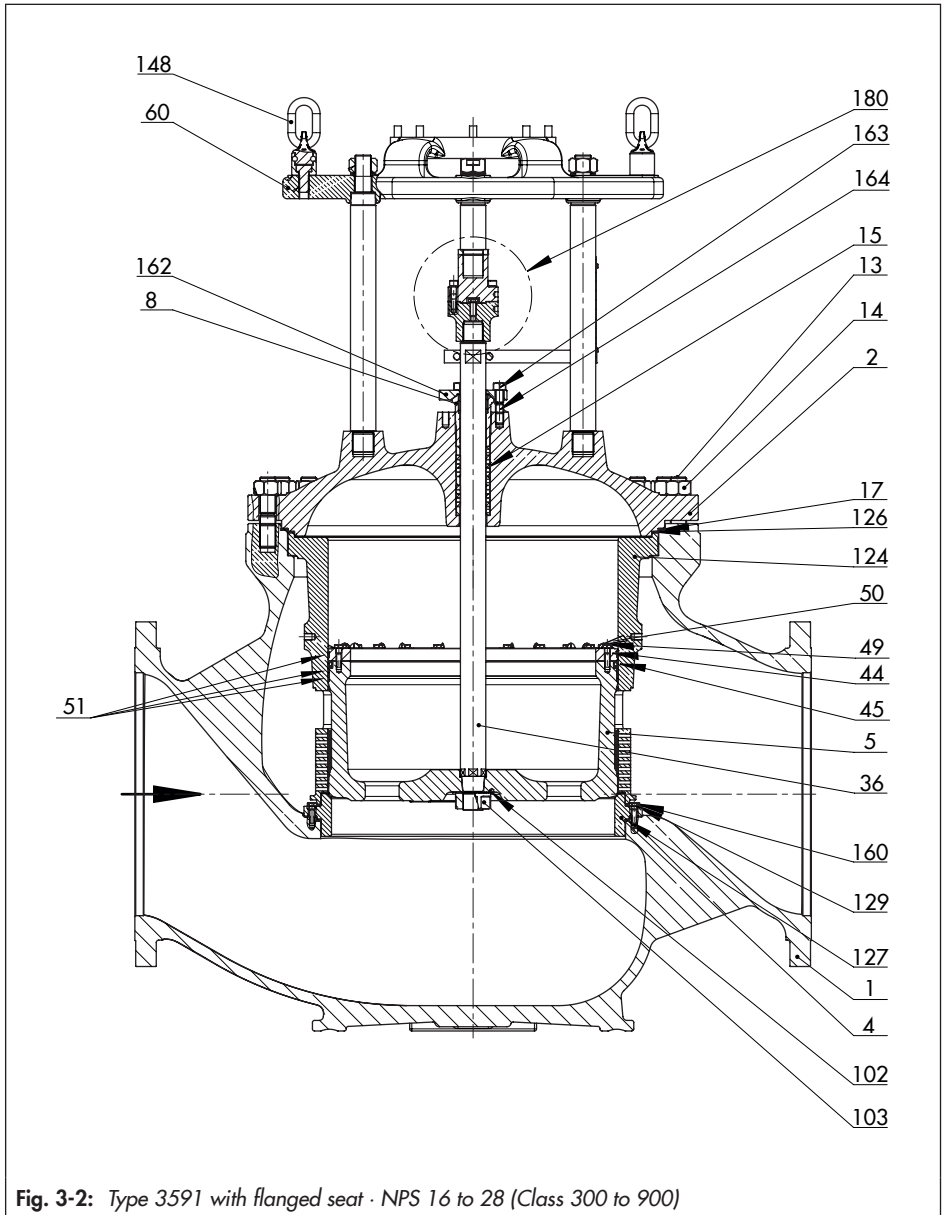

Fig. 3-2: Type 3591 with flanged seat · NPS 16 to 28 (Class 300 to 900)
with clamped seat. The seat and cage are clamped into place by tightening the body nuts (14). The seat of the version with flanged seat is bolted into the seat bridge. The cage (124) is suspended in the valve body (1) (see Fig. 3-1 and Fig. 3-2).
Legend for Fig. 3-2